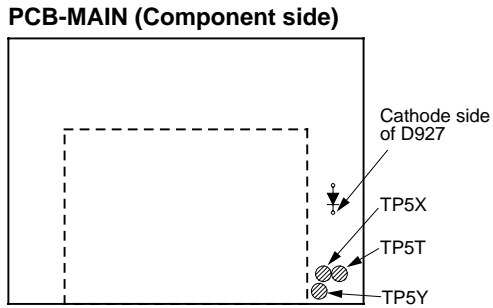

Fig. 1
1. Short-circuit TP5T and TP5Y shown in the Fig. 1.